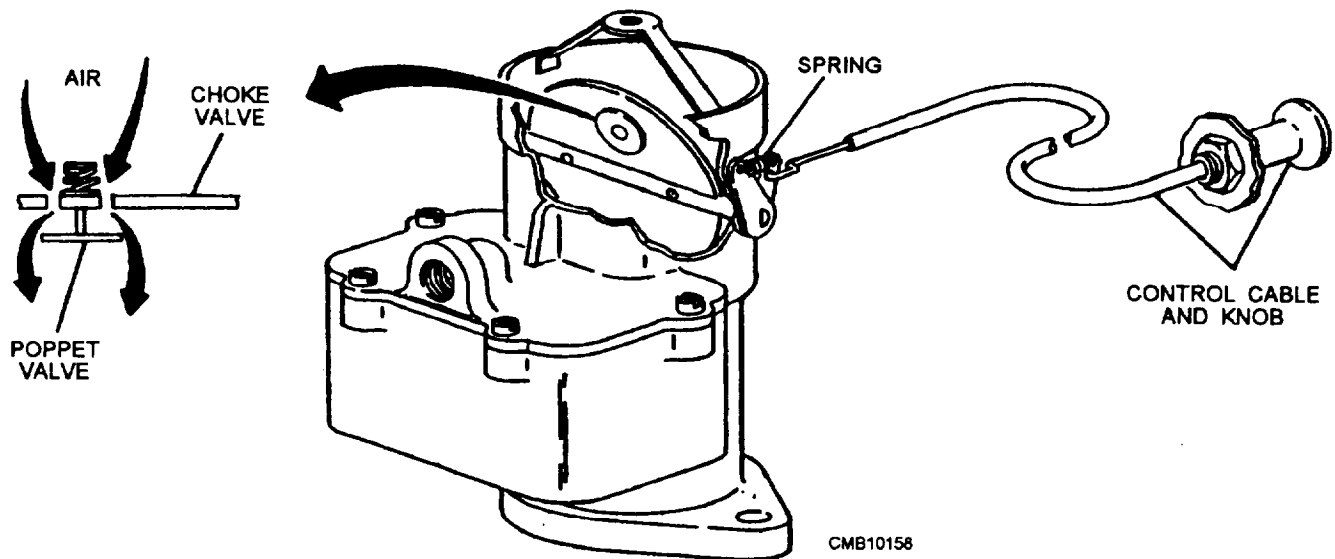

Figure 4-29.—Manual choke system.
- The manual choke system (fig. 4-29) was once the most popular way of controlling the choke plate; however, because of emissions regulations the possible danger when used with catalytic converters and technological advances in automatic choke systems, manual chokes are not often used today. In the manual choke system, the choke plate is operated by a flexible cable that extends into the operator's compartment. As the control is pulled out, the choke plate will be closed, so the engine can be started. As the control is pushed back in, the position of the choke plate is adjusted to provide the proper mixture. The following are two features that are incorporated into the manual choke to reduce the possibility of the engine flooding by automatically admitting air into the engine.